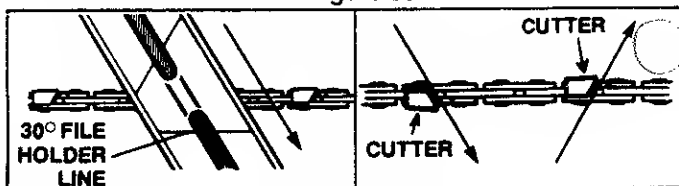

Figure 31
- b.) Align the 30° file holder marks parallel with the bar and to the center of the chain. Figure 31.
- c.) File from inside toward outside of cutter, straight across on forward stroke in one direction only. Use 2 or 3 strokes per cutting edge. Figure 31.